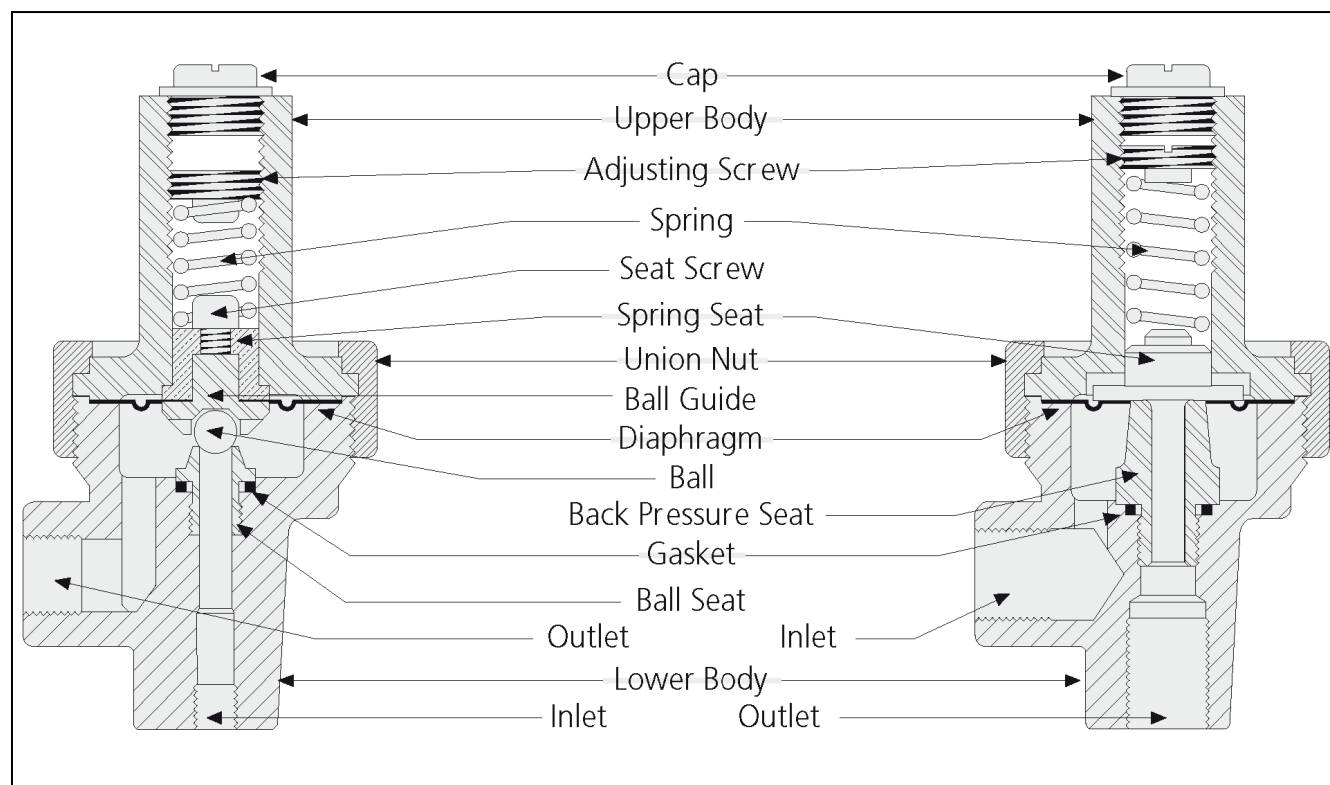

Figure 7. Safety and Back Pressure Valves (Typical)
2.10 CHECK VALVES (*Figure 7*)